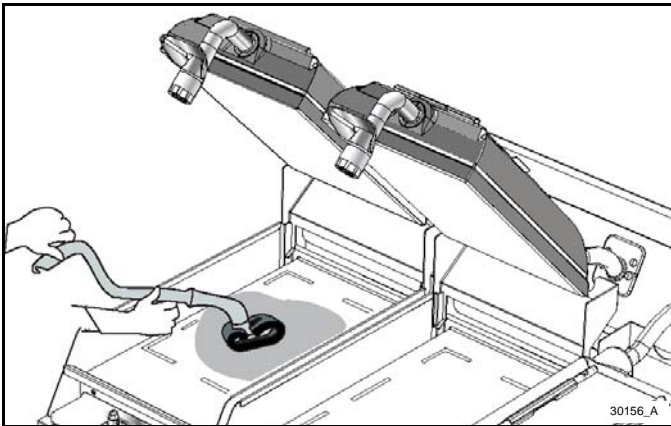

Figure-154
25. Spread the grill cleaner thoroughly on the lower surface to ensure full coverage. See Figure-154.